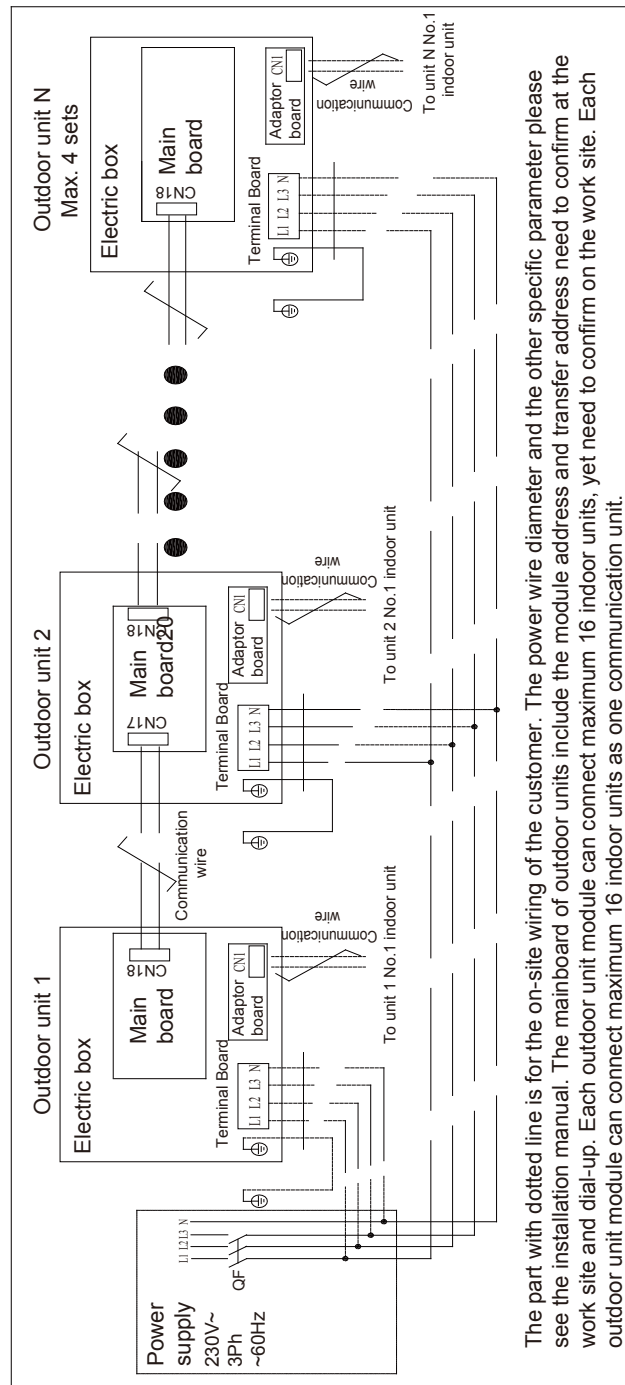

Fig.50
- (1) During installation, communication line can not be wired with power cord. The minimum distance between communication line and power cord should be more than 20cm, otherwise unit malfunction may happen.
- (2) About connection between indoor units and connection between outdoor modules, please refer to Fig.50